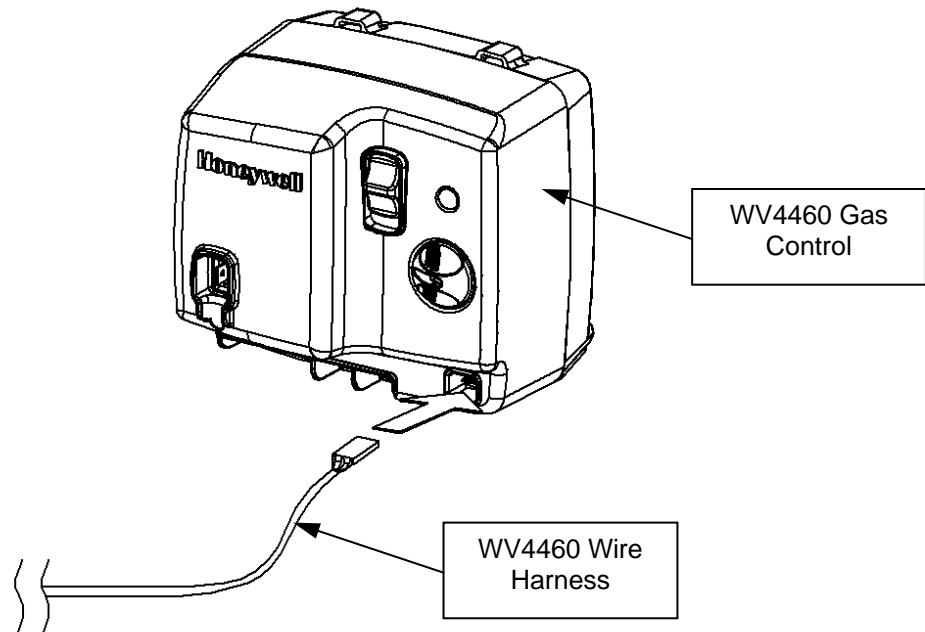

Figure 26
Step 26: Push the plastic connector on the WV4460 wire harness into the recessed area on the right side of the WV4460 gas control. This is shown in Figure 26.